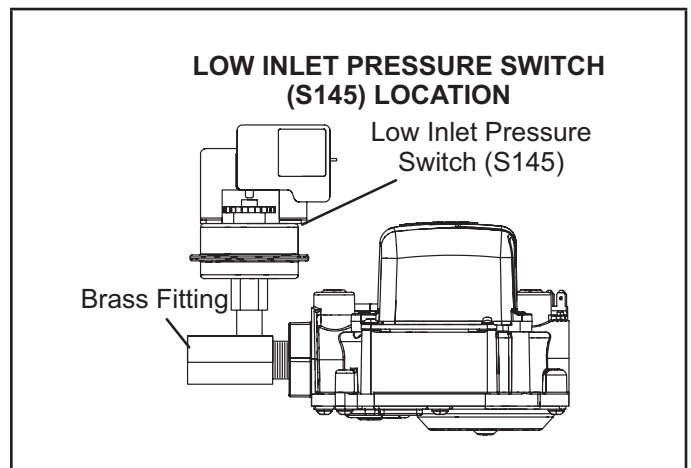

Figure 1
- 1 - Thread provided brass fitting to gas valve inlet until hand tight. Using properly sized wrench, tighten fitting 2 to 3 full turns being careful to position the side port to allow clearance for the pressure switch and harness. See figure 1.
**NOTE** - Some installations may require the pressure switch and fitting assembly to be positioned differently than shown in figure 1.